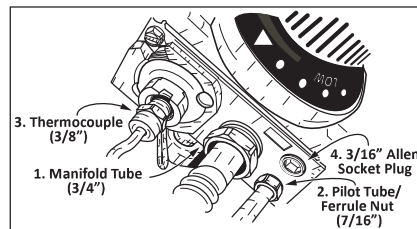

Figure 56 - Installing Components in Order
**6** Remove the allen socket plug from the new gas control valve/thermostat with a 3/16” allen wrench and install actuator fitting with a 9/16” wrench. (See Figures 56 and 57)